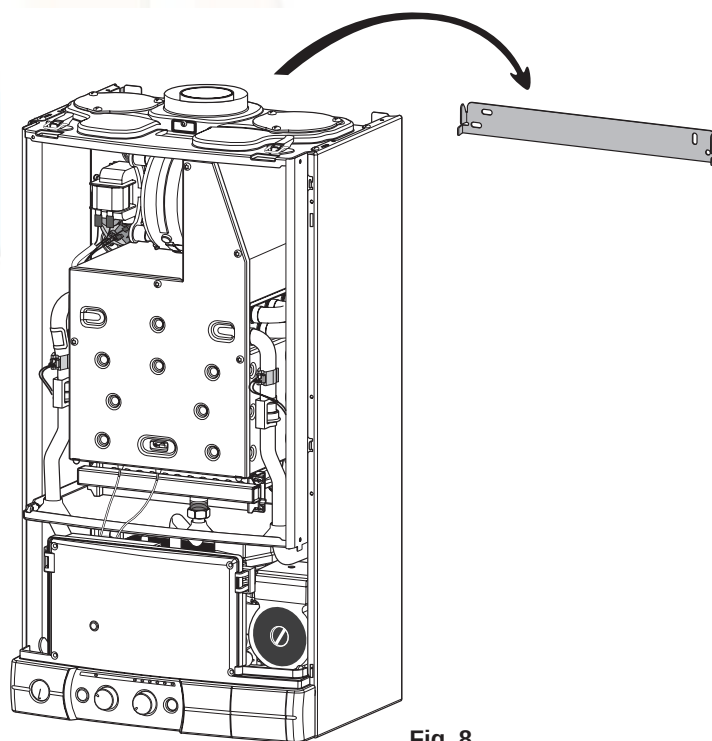

Fig. 8
- offer the water heater up to its bracket and allow it to drop into position while pressing on it (fig. 8)